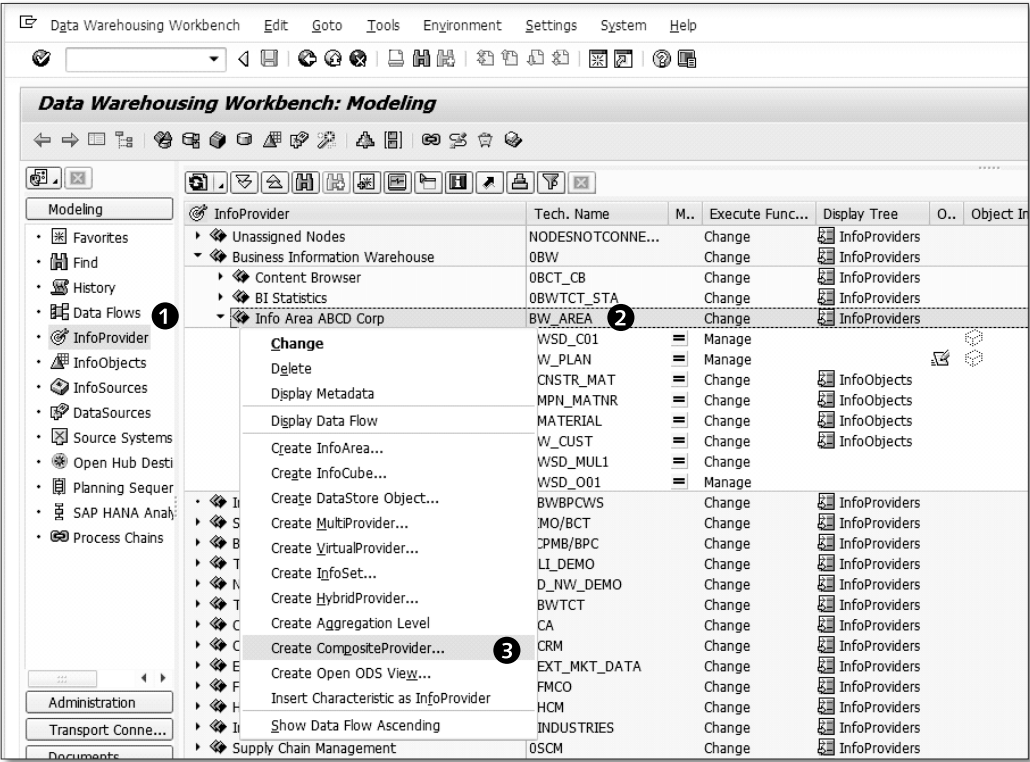
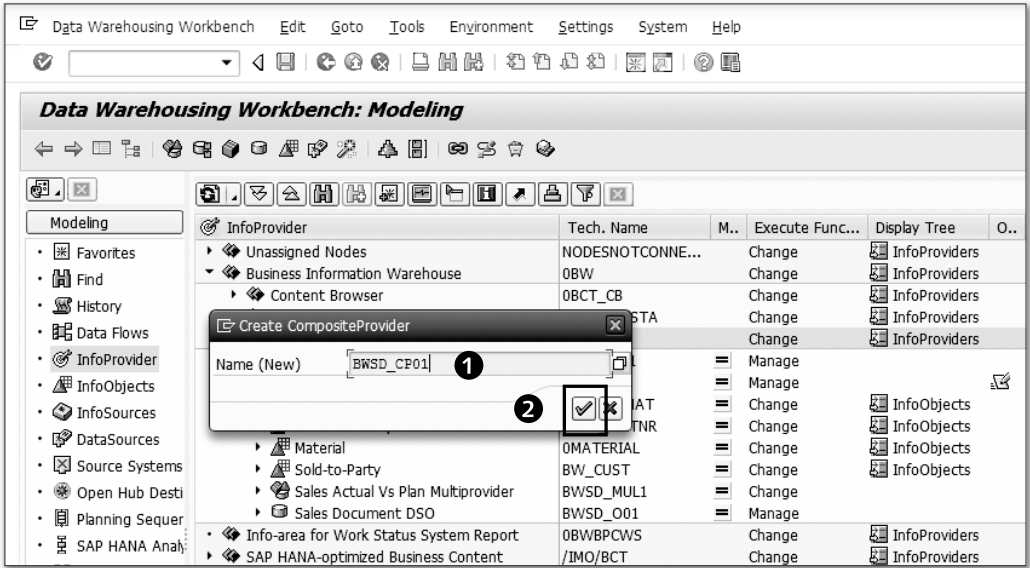
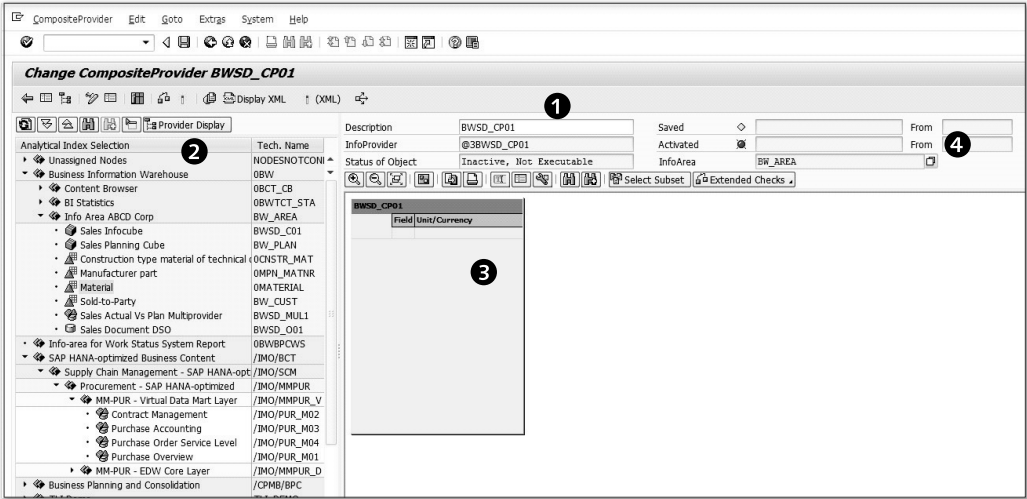

Figure 6.67 Creating a CompositeProvider
Figure 6.68 Entering the Technical Name for the CompositeProvider
Figure 6.69 Reference Data Model for the CompositeProvider
A CompositeProvider is created in the DATA WAREHOUSING WORKBENCH screen, which is opened using Transaction RSA1. Select INFOPROVIDER under MODELING from the navigator section, as shown in ❶ of Figure 6.67. Select the InfoArea under which you want to create your CompositeProvider ❷. From the context menu, select CREATE COMPOSITEPROVIDER ❸. The CREATE COMPOSITEPROVIDER pop-up appears, as shown in Figure 6.68.
Enter the technical name and description of the CompositeProvider (❶ of Figure 6.68). Click on the CREATE icon ❷. This takes you to the screen where you define the reference data model for the CompositeProvider (see Figure 6.69 in the next section).
The naming convention by SAP, that is, all CompositeProvider begin with "@3", is defaulted in the technical name for the InfoProvider in the right panel as shown in ❶ of Figure 6.69.
The left panel provides all possible objects that could be used in creation of the CompositeProvider (2 of Figure 6.69). The CompositeProvider is shown in the right panel 3. We recommend identifying the CompositeProvider into a specific InfoArea by using the INFOAREA dropdown menu in the right panel 4.